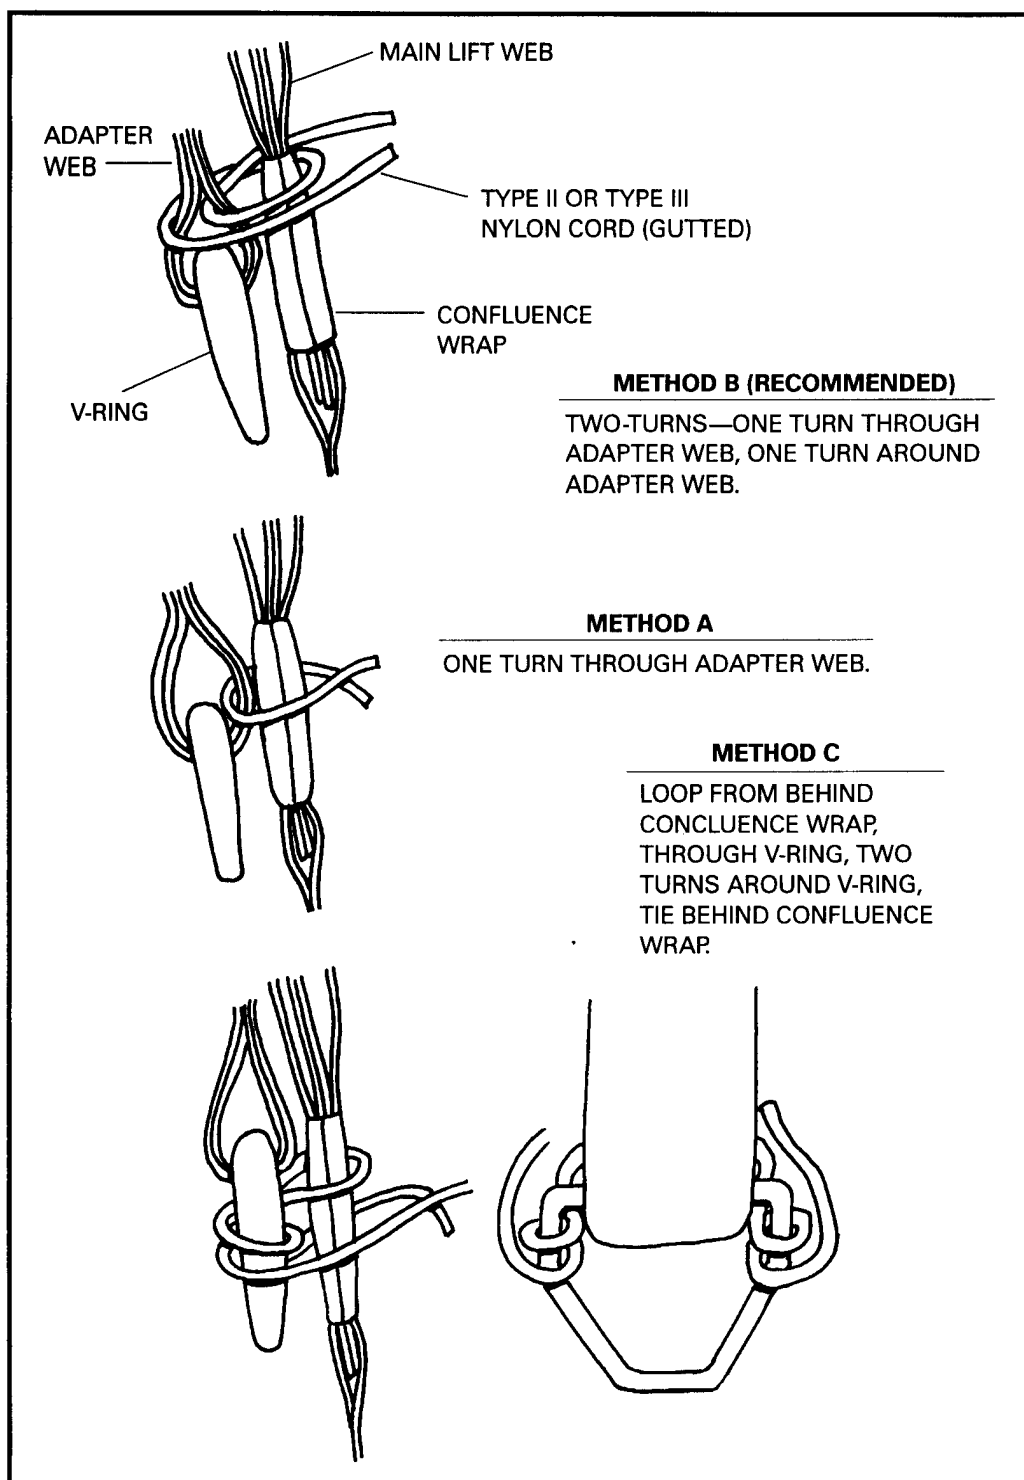

Figure 12-6. Securing lowering line adapter web with Type II or Type III nylon cord.
b. When attaching equipment to be lowered, the web must be routed under the waistband. Type II or III nylon cord (guttled) is used to eliminate slack between the accessory attaching ring and the parachute harness main lift web. This is done by making one turn through the accessory attaching ring loop in the adapter web, and one turn around the main lift web of the parachute harness and the lowering line adapter web (Figure 12-6, page 12-12). The loose ends must be tied together using a suitable joining knot such as a square knot followed by two overhand knots or a surgeon's knot.